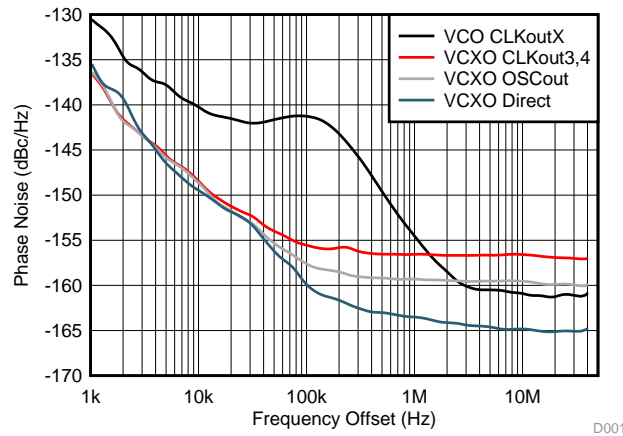

Figure 39. LVPECL Phase Noise, 122.88 MHz
- Since PLL1 outputs have best in-band noise, CLKout3 is used with CLKout3_OSCin_Sel = 0x01 (OSCin) to provide a PLL1 based output. LVCMOS (Norm/Inv) is used instead of LVCMOS (Norm/Norm) to reduce crosstalk. If OSCout was not needed for FPGA start-up clock, OSCout could have been used to provide the LO reference clocks with lower noise floor, but close-in noise is typically of more concern since noise above the loop bandwidth of the LO will be dominated by the VCO of the LO. See Figure 39.